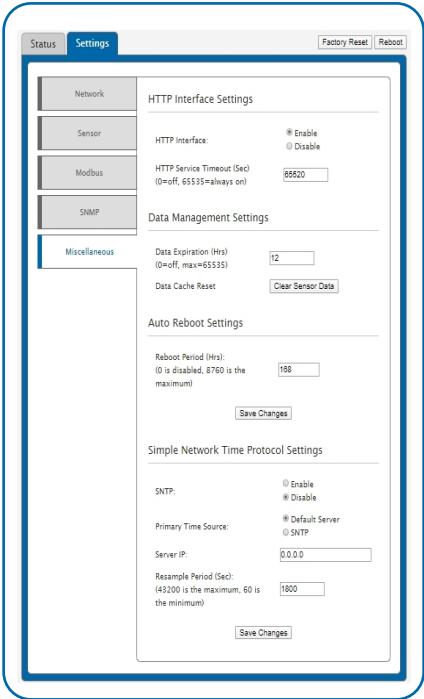

Figure 28
**HTTP Service Timeout:** This is a security setting for allowing this web interface to be active. The default is 5 minutes. Setting the field to 0 will turn off the local interface, ending your session. See Figure 28.